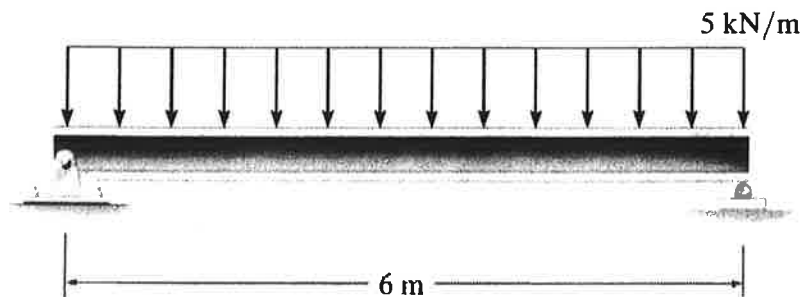
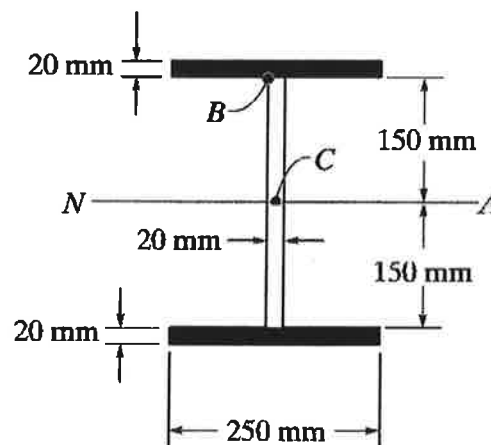

Figure 2
Figure 3
2. The beam is bolted or pinned on left hand side and supported by a roller on the right hand side. A uniform distributed loading exerted on the beam over its 6-m length. The simply supported beam in **Figure 2** has the cross-sectional area shown in **Figure 3**.
- (a). **Draw** the shear and moment diagrams for the beam shown in **Figure 2**. **Find** the maximum internal moment in the beam.